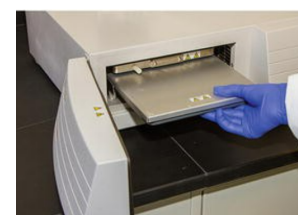

Figure 19: Incubate overnight at 37°C
11. Close hybridization chamber, insert tray into oven, and clamp tray into place. Incubate at 37°C overnight (16 – 18 hours) (Figure 19).